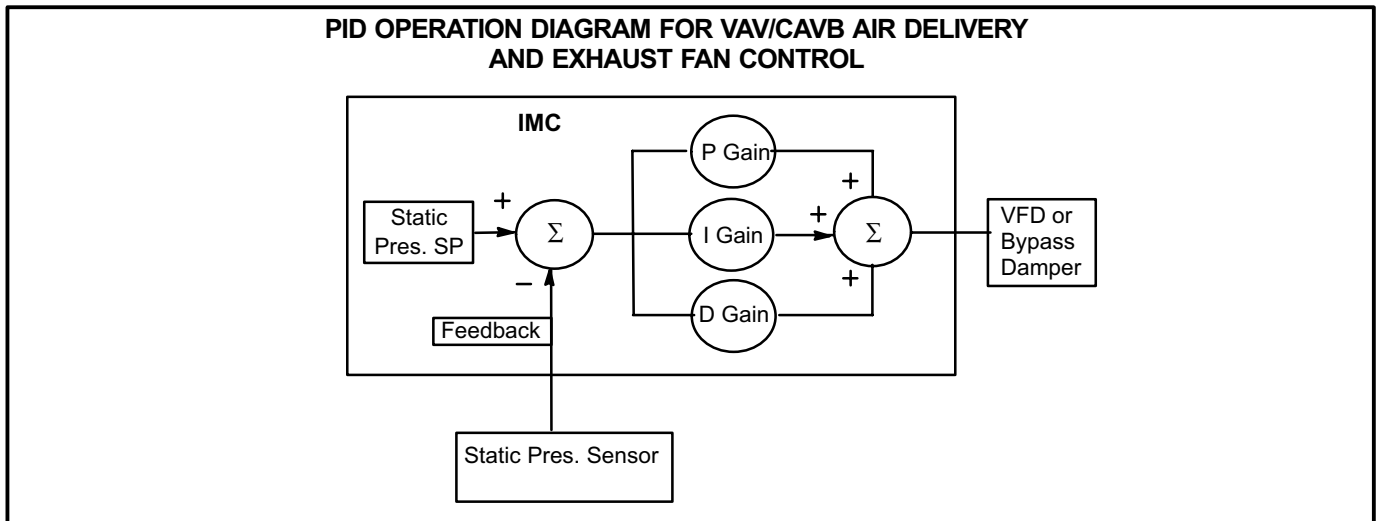

FIGURE 19
The analog outputs on the GP1 boards can be set to closed loop PID or staged control. Most applications such as variable air delivery and variable speed exhaust fans will use the closed loop PID option. The closed loop PID method used by the IMC has four constants, manual reset (ManRS), proportional (P), integral (I) and derivative (D) as shown in figure 19. The PID control constants as well as the output minimum and maximum values, may be adjusted if necessary.